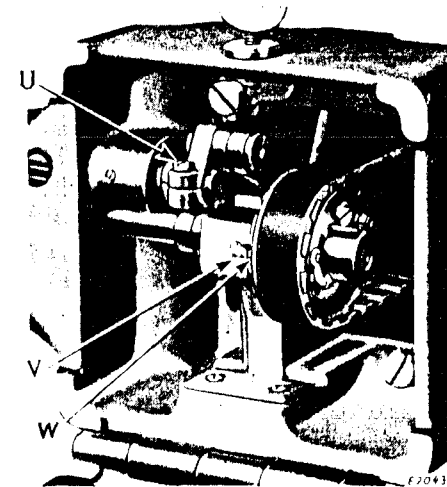

Fig. 23. Showing Timing Marks on Plate and Pulley
If the feed dog strikes the throat plate, tip the machine back and loosen the pinch screw (U, Fig. 23) of the feed driving rock shaft crank at the end of the rock shaft, then set the feed dog so that it will not strike when the longest stitch is made, and retighten the pinch screw (U).
Owing to the fact that the sewing hook makes two revolutions to one revolution of the hook driving shaft, and that the feed lifting eccentric is on the hook driving shaft, it is possible to have the sewing hook correctly timed without having the feed correctly timed. To overcome this, the plate (V, Fig. 23) is attached to the underside of the bed of the machine. This plate is marked with an arrow at its forward end and directly alongside of the plate, the side of one of the teeth of the belt pulley is marked as shown at W in Fig. 23. When replacing the belt, replace the arm shaft bushing and securely fasten it in position by the screw (L, Fig. 3) at the back of the machine, replace the feed regulating spindle head and the machine pulley and place the belt on the upper pulley, then turn the machine pulley over toward you until the thread take-up lever is at its highest point. Then turn the hook driving shaft with the fingers until the arrow on the plate (V) and the timing mark on the belt pulley (W) are directly in line. Now, without disturbing either the arm shaft or the hook driving shaft, slip the belt over the lower pulley (Fig. 23). The feed will then be correctly timed with the needle bar.